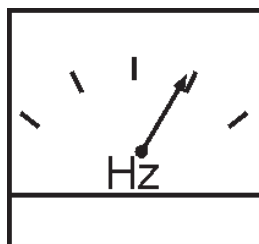

Figure 45. Frequency Meter
7. The generator's frequency meter (Figure 45) should be displaying the 60 cycle output frequency in **HERTZ**.